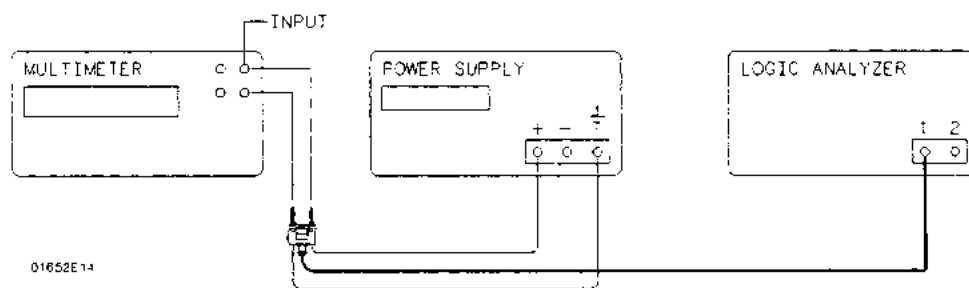

Figure 4-7. Attenuator Calibration Setup
7. Connect the power supply to the HP 1652B/1653B oscilloscope and monitor the supply with the digital voltmeter as shown in figure 4-7.